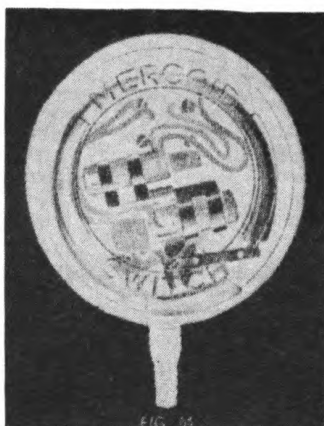
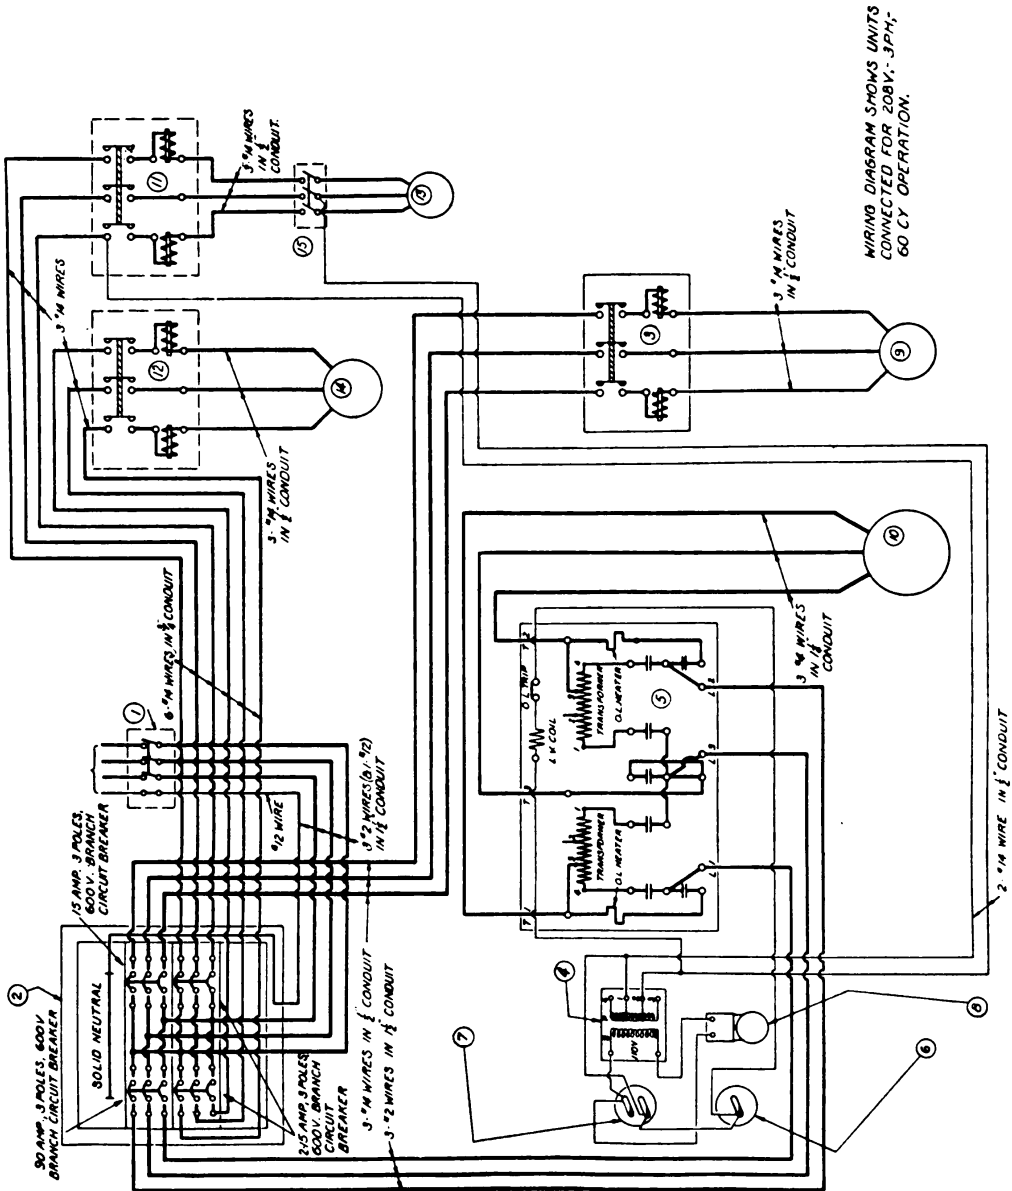

FIG. 18
FIG. 21
The switch is located on the side of the compressor motor starter box with the threaded male bottom connection piped into the low pressure side of the ammonia system. Electrically the instrument is wired in series with the high pressure cut-out and the starter control system, indicated as (6) on wiring diagram Fig. 21.
The high pressure control switch shown in Fig. 18 is located on one side of the compressor motor starter box and indicated as (7) on wiring diagram Fig. 21.
For plants using 208 volt, 3 phase, 60 cycle current with a water pump and cooling tower, the electrical equipment operates in the following sequence: (Fig. 21).
REFERENCE PARTS, FIG. 21